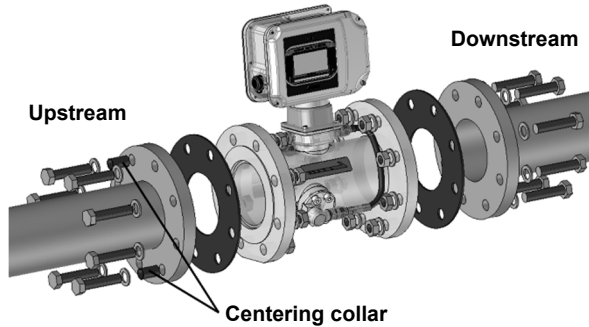

Fig. 4-3. Example of Installation of Centering Collars
For upstream installation, as shown in Fig. 4-3, insert the supplied centering collars diagonally into the holes in the gasket and flange.
6) Flange type flow meters should be secured with M12 (for nominal diameter 25A), M16 (for nominal diameters 32A, 40A, 50A, 80A, and 100A) or M20 (for nominal diameters 150A and 200A) bolts and nuts with torque within the range shown below (see Fig. 4-3.). When tightening, use even force to avoid one-sided tightening.